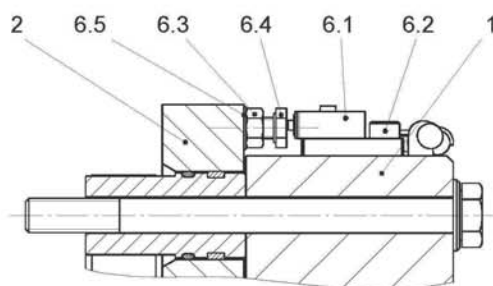

Fig. 9
Release Monitoring (6) Fig. 9 (Option, dependent on Type)
Manufacturer-side Adjustment and Functional Inspection of the Microswitch (6.1), see Fig. 9